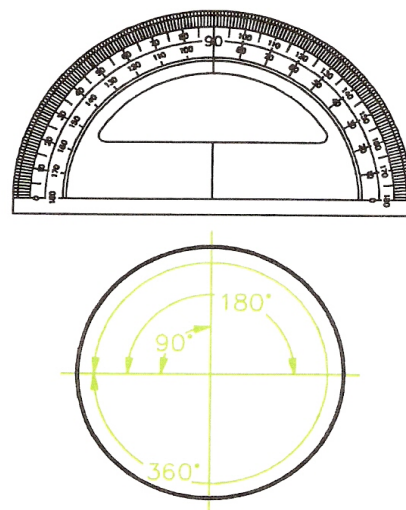

Figure 8 - A Protractor and Degrees in a Circle
- **Protractor:** a protractor is illustrated in Figure 8. Protractors are for drawing or measuring those angles that cannot be easily drawn with a Tee square and set squares. Protractors are usually made to construct or measure angles from 0 degrees to 180 degrees, from either the left hand end or the right hand end of the protractor. Protractors are also made in a full circle pattern. These will measure or construct angles up to 360 degrees, without having to turn the protractor upside down. Semicircular protractors can, of course, also be used for constructing and measuring angles greater than 180 degrees.
Figure 8 shows that a full circle contains 360 degrees; a semi-circle contains 180 degrees and a quadrant (a quarter of a circle) contains 90 degrees. An angle of 90 degrees is a right angle.